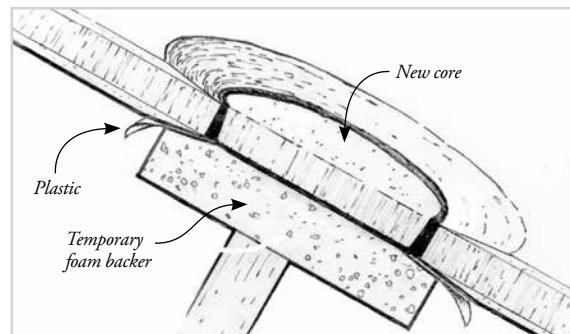

Figure 5-14 Brace a temporary backing against the back of the hole to support the new core.
2. Prepare a temporary backing to support the core while bonding it in position and while laminating the new outer skin patch. Cut a piece of low-density insulating foam slightly larger than the hole opening. Bevel the edges of the foam so the face of the foam is flush with the inner skin/core bond line. Cover the foam with 4-6 mil plastic and brace it in position against the inner edge of the hole. If the foam is too stiff to conform to a curved panel shape when braced from the back, sand the foam to a shape that matches the panel curve (Figure 5-14).